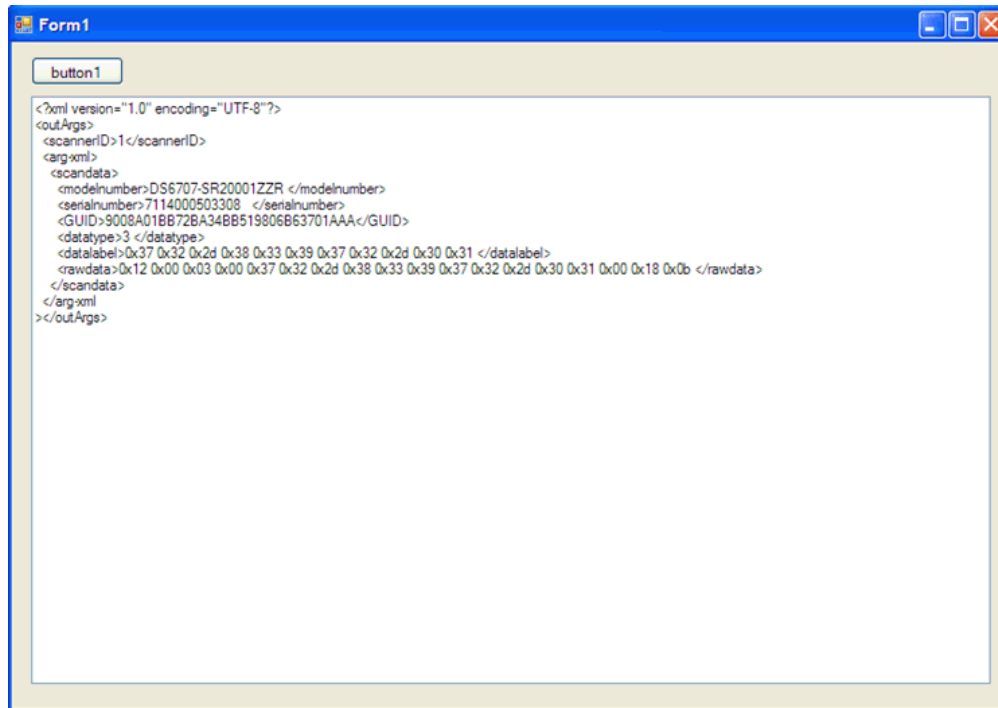

Figure A-13 Scanned Bar Code Output
6. If you execute the application and click on the button, the application instantiates CoreScanner and is ready to receive bar code events. *Figure A-13* illustrates the output when you scan a bar code.